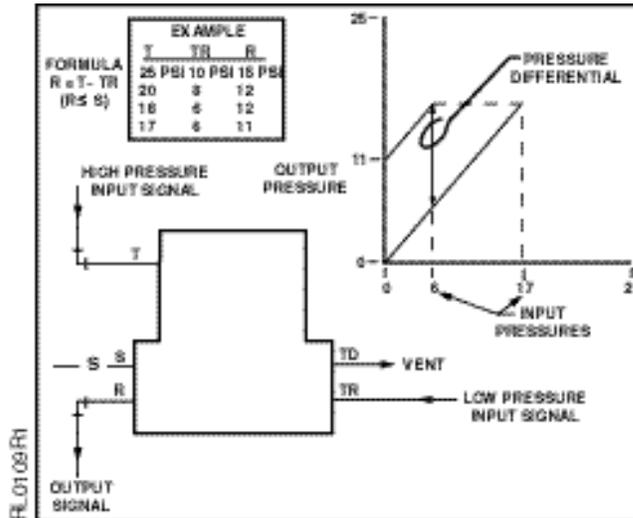

Figure 6.
- Direct acting differential pressure relay. See Figure 6.